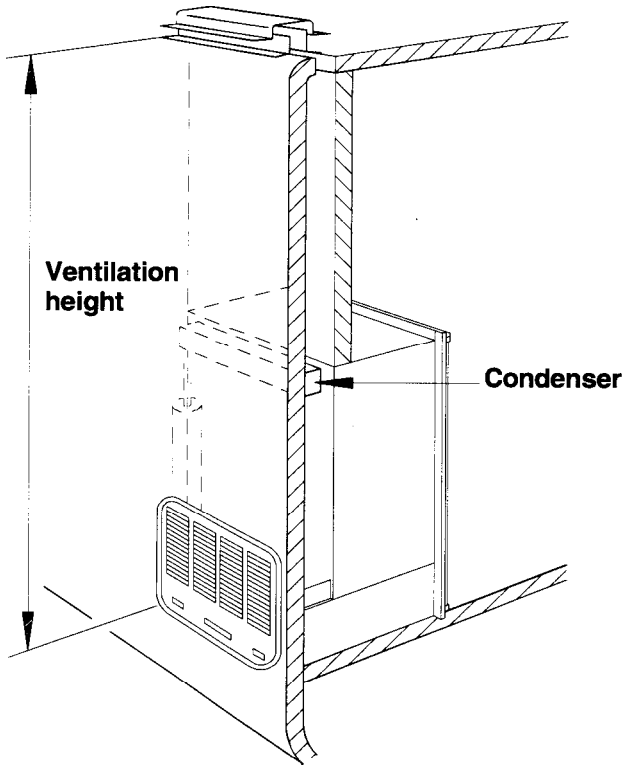

FIG. 9
The method of installation is shown in FIG. 9. It is essential that all maximum or minimum dimensions are strictly maintained as the performance of the refrigerator is dependent on adequate flow of air over the rear of the refrigerator.
**NOTE:** Clearance "N" is the distance between the bottom of the lower vent to the roof material. For ventilation height, see table VENTILATION HEIGHTS See Figures 9, and 10.